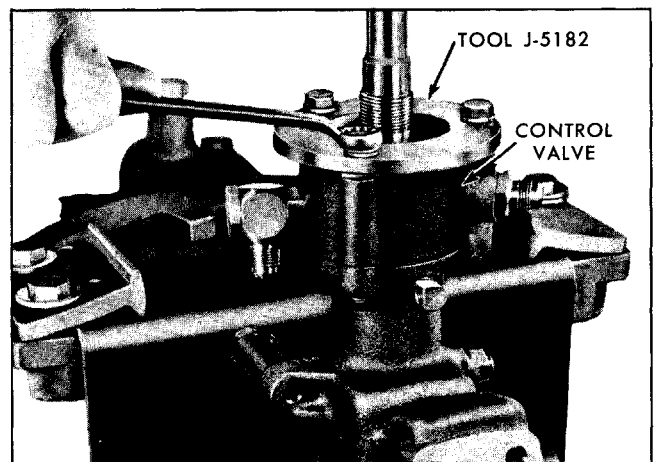

Fig. 9-44 Installing Tool J-5182 on Valve Body Cylinder
5. Align scribe marks on body with scribe marks on housing, place valve body retaining collar J-5182 over valve body, install valve body to housing screws, and tighten (Fig. 9-44).